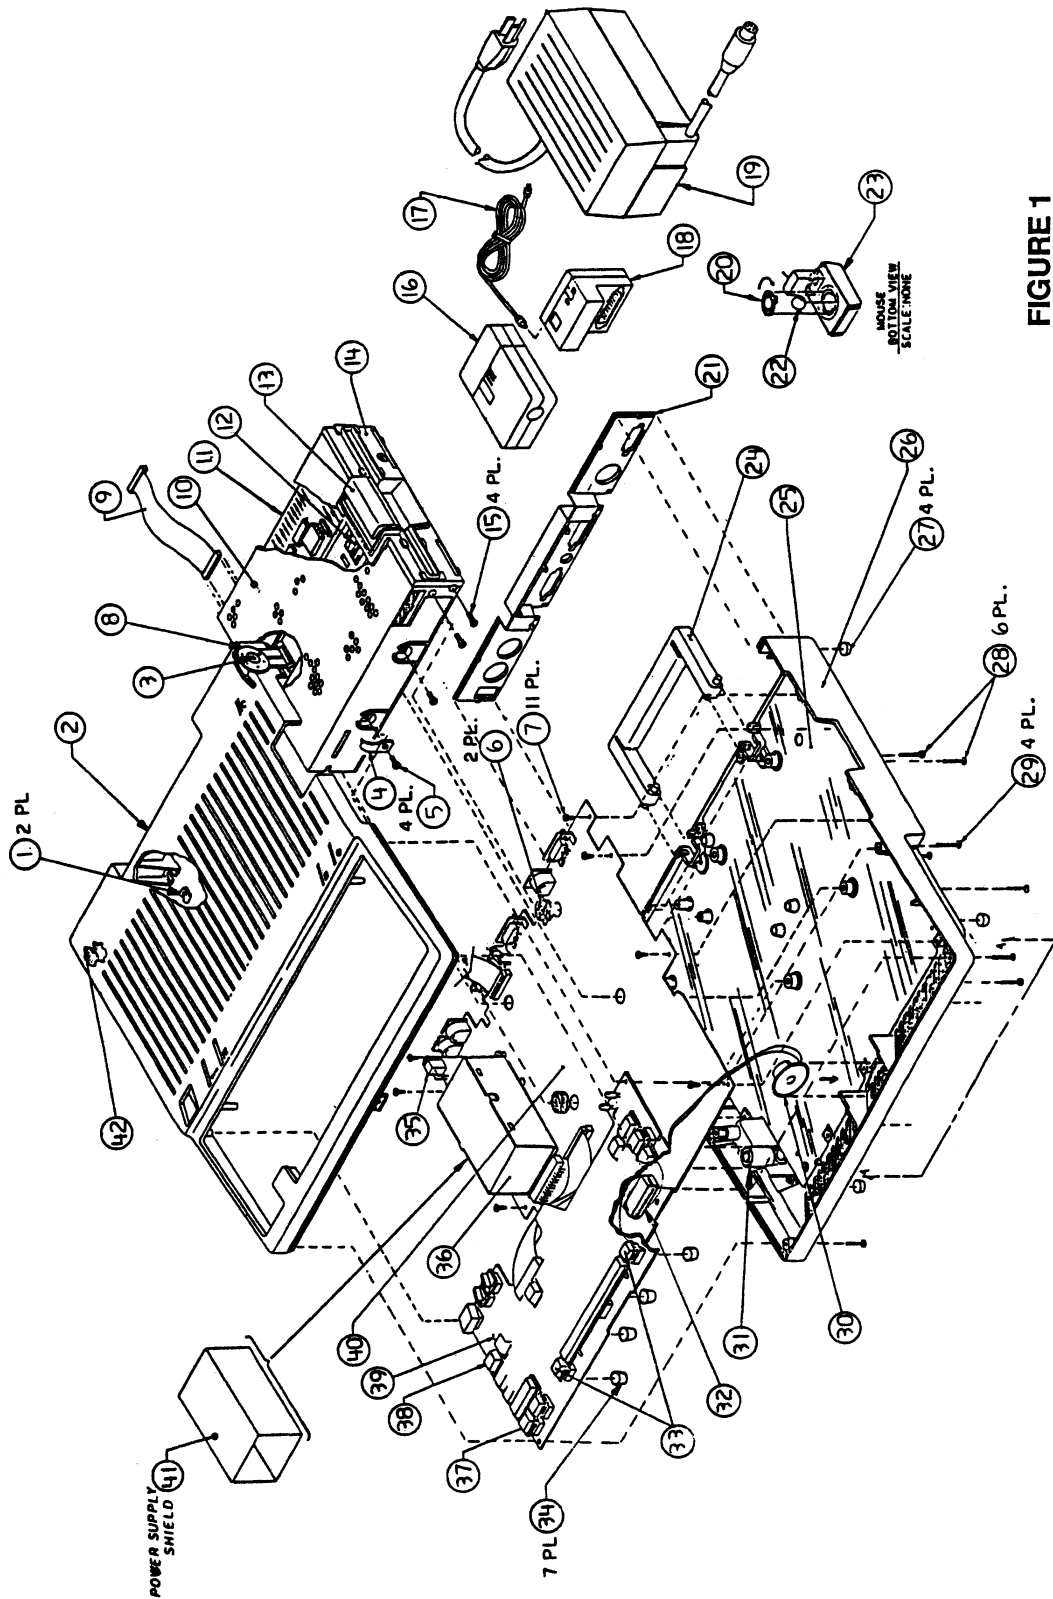

FIGURE 1
- IPL.3 Finished Goods Assembly (Figure 1)
□ **APPLE IIc - FINISHED GOODS ASSEMBLY (Figure 1)**